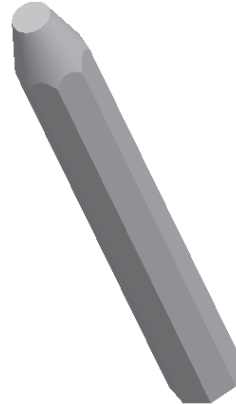

Figure 8-103 Model after creating the draft feature
- Create the draft feature, refer to Figure 8-103.
7. Choose the **Build feature** button from the **Draft** dashboard to complete the draft feature, as shown in Figure 8-103.